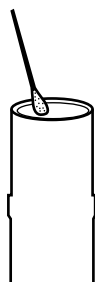

Figure 2
2. Moisten a swab with 70% ethanol and clean the outside surface and the inner filter placement surface of the tip cone (see Figure 2).